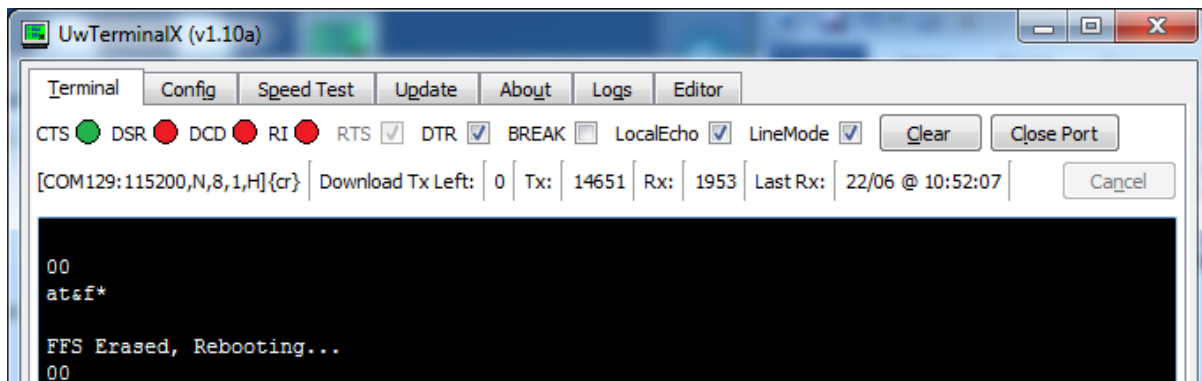

Figure 3: Return BL654 to factory default settings
10. To return the BL654 to factory defaults, enter the command `at&f*` in the Terminal tab as shown (Figure 3).